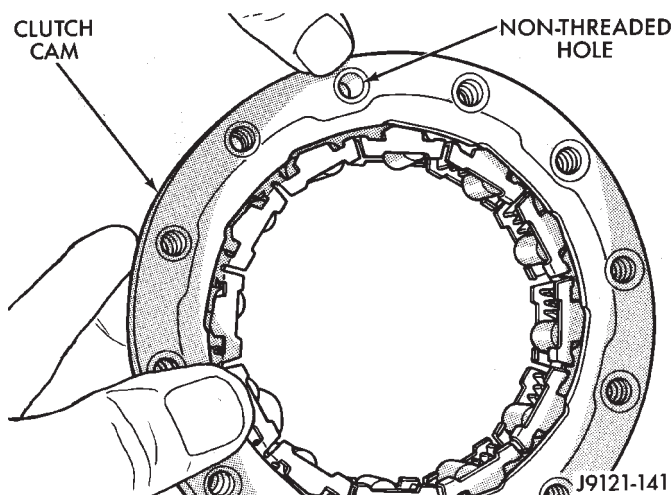
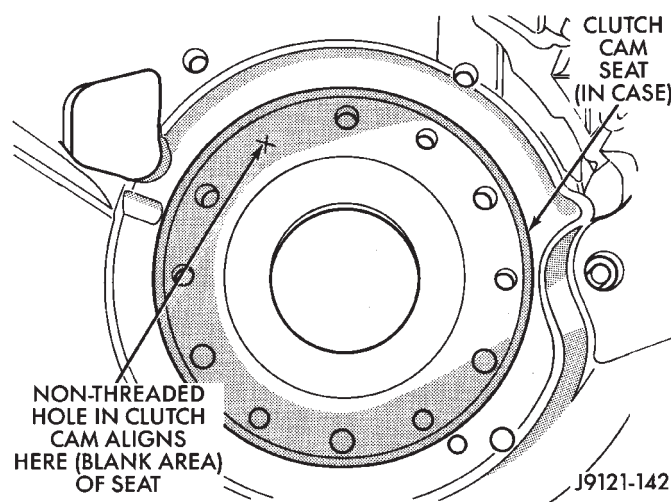

Fig. 121 Location Of Non-Threaded Hole In Clutch Cam
Fig. 122 Location Of Blank Area In Clutch Cam Seat Of Case
(1) Examine bolt holes in overrunning clutch cam. Note that one hole is **not threaded** (Fig. 121). This hole must align with blank area in clutch cam bolt circle (Fig. 122).